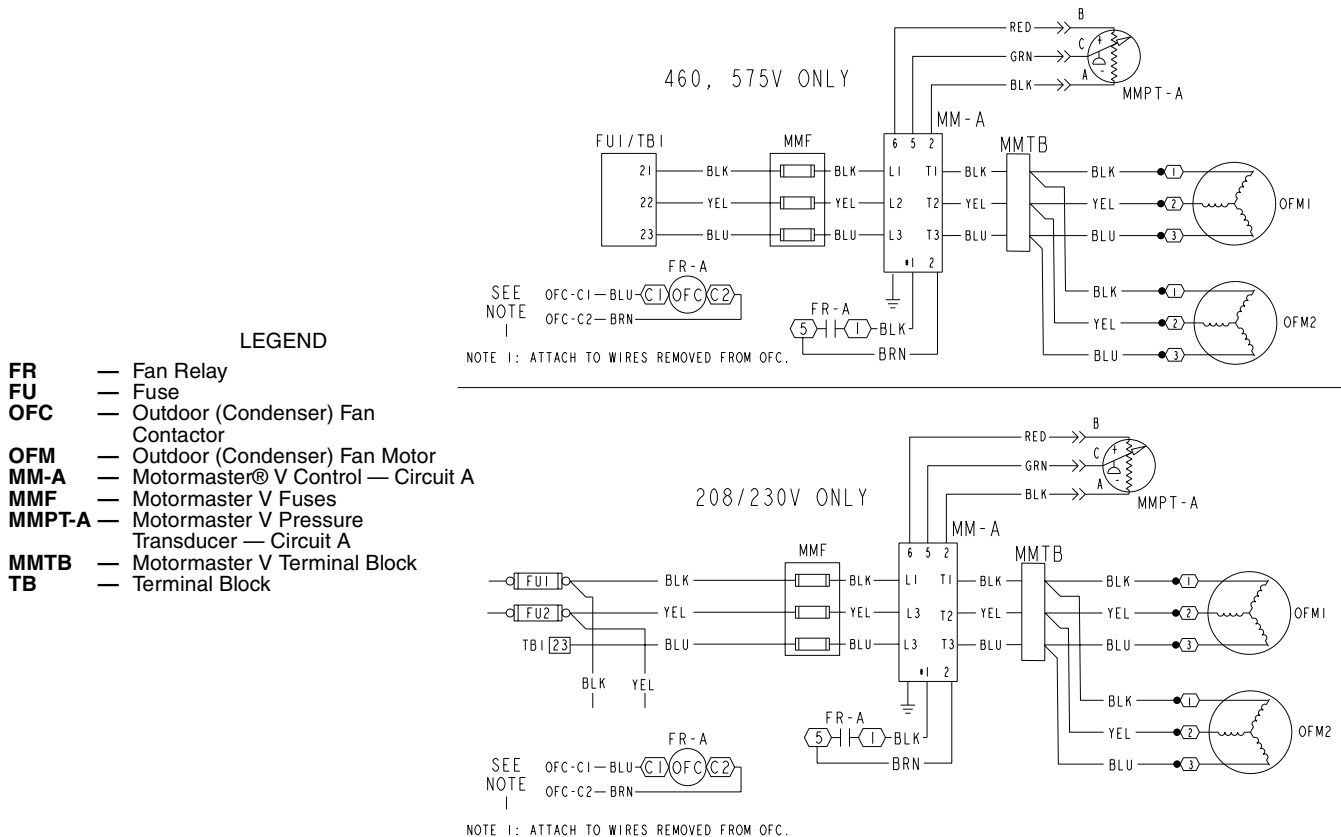

Fig. 9 — Transducer Wiring Schematic
17. Attach red, green and black wires from transducer sensor cable to MMV terminal block 6, 5 and 2 respectively according to Fig. 9. Remove the ground lug and ground wire from the bracket and re-attach in combination with the transducer shield drain wire. Attach the other end of the ground wire to the unit ground lug inside the control box.
15. Attach red, green and black wires from transducer sensor cable to MMV terminal block 6, 5 and 2 respectively according to Fig. 9. Remove the ground lug and ground wire from the bracket and re-attach in combination with the transducer shield drain wire. Attach the other end of the ground wire to the unit ground lug inside the control box.